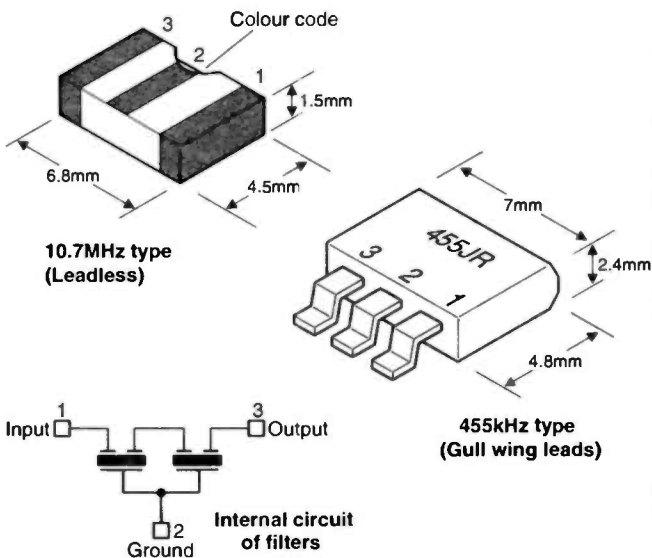

Fig.15 Surface mount IF filters
10.7MHz and 455kHz have the structure shown in Figure 15. Both are dual element types and bandwidth can be for broadcast or communications. Surface mount quartz crystals are presently made in one or two non-standard sizes. All these devices can be found in commercial products in plenty, but small quantities need to be hunted down.